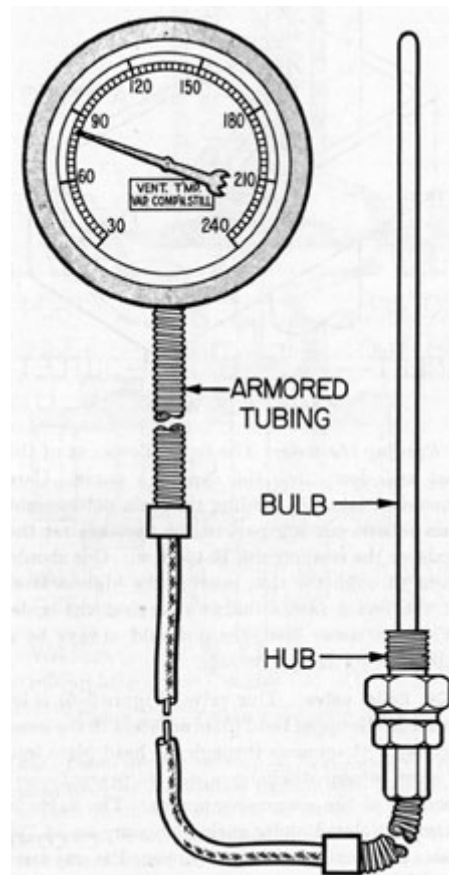

Figure 3-4. Vent thermometer.
**3C2. Vent thermometer.** A distant reading dial thermometer indicates the temperature in the vent pipe. The bulb of the thermometer (Figure 3-4), inserted in the vent pipe, is connected by a 9-foot armored capillary tubing to the dial which is graduated from 30 degrees F. to 240 degrees F.